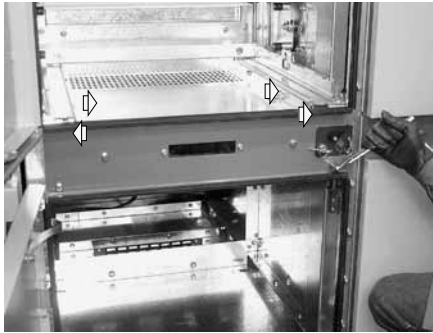

Fig. 26a
- Loosen the fixing screws of the front panel (fig. 26a)